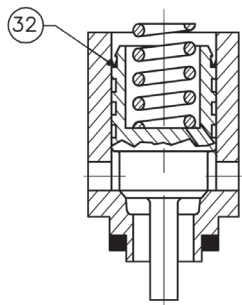
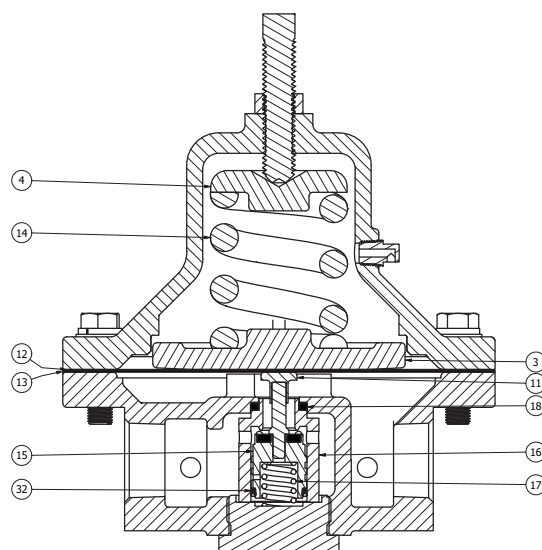

Figure 1: Option-4 - Stabilizer
Figure 2: Basic Model D - Comp Diaphragm
3. Refer to Figure 2 for basic regulator. For blow-ups of Option-4 Stabilizer, refer to Figure 1.
7. Reinstall the pusher plate (11). Ensure proper position of flat surface being downwards. Ensure centered.
8. Reinstall a new cylinder gasket (18). Press firmly and evenly into place using the cylinder (16). Do not use a "homemade" cylinder gasket.
9. Reinstall the cylinder (16) concentrically within the body cap (5) opening.
10. If supplied with Opt-4 Stabilizer, install new stabilizer seal (32) properly oriented onto piston (15). See Figure 1.
11. Slide the piston (15), including stabilizer seal (32) if supplied, slowly into place, assuring that the piston post slides into the female groove of the pusher plate (11). Use thumbs to ease stabilizer seal into cylinder (16).
12. Place piston spring (17) into piston (15) cavity.
13. Use pipe thread sealant applied to the body cap (5) threads. Thread body cap into body (1) as tight as possible by hand, then tighten to the following torque values.